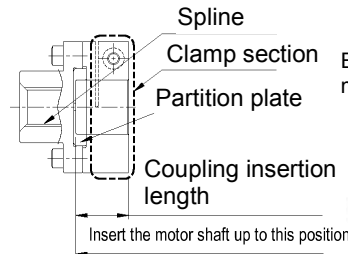

Fig. 5-17
- If the motor shaft is not in contact with the partition plate, it could damage the reduction gear. (Refer to Fig. 5-17)